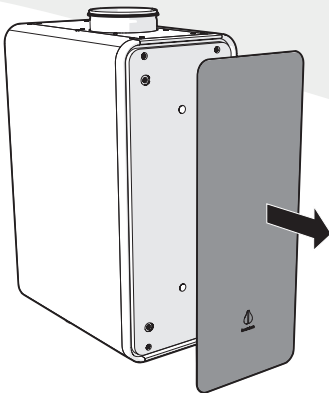

Figure 22 Removing the front plate
2. Remove the front plate (Figure 22). The plate is attached with magnets, so you don't have to unscrew;